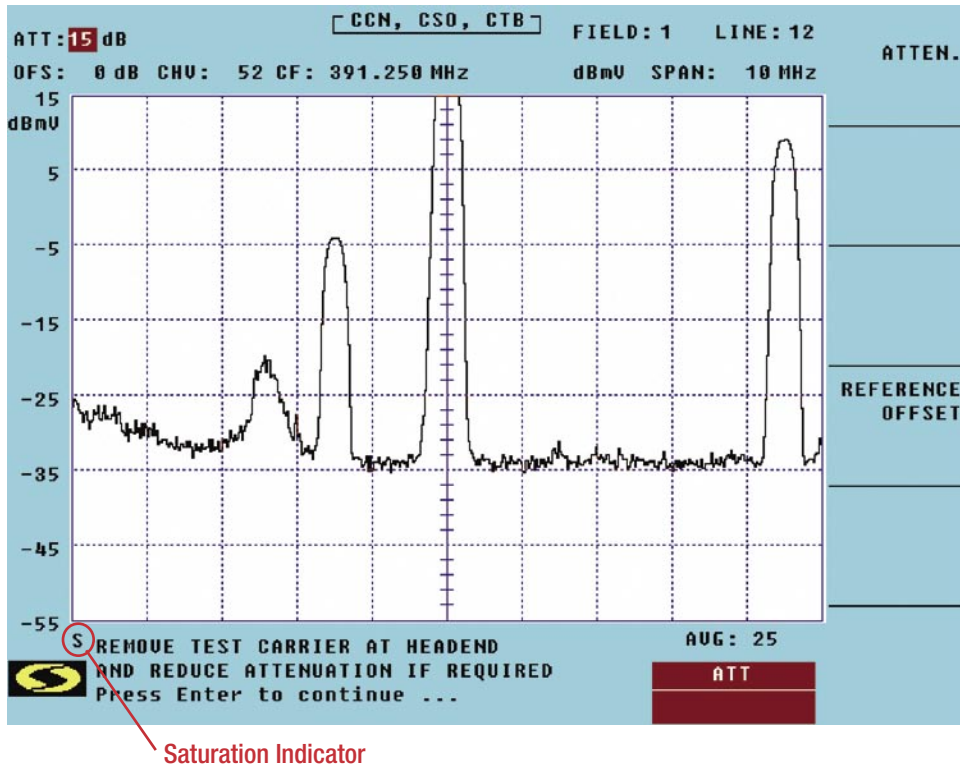

Figure 1
9. Set the attenuator using the arrow keys so that the video carrier is near the top graticule or slightly beyond but not high enough to cause an **S** to appear above the Sunrise Telecom logo indicating that the analyzer input is saturated (see Figure 1). This has the effect of pulling the system noise out of the noise floor of the analyzer and minimizes the noise correction factor.